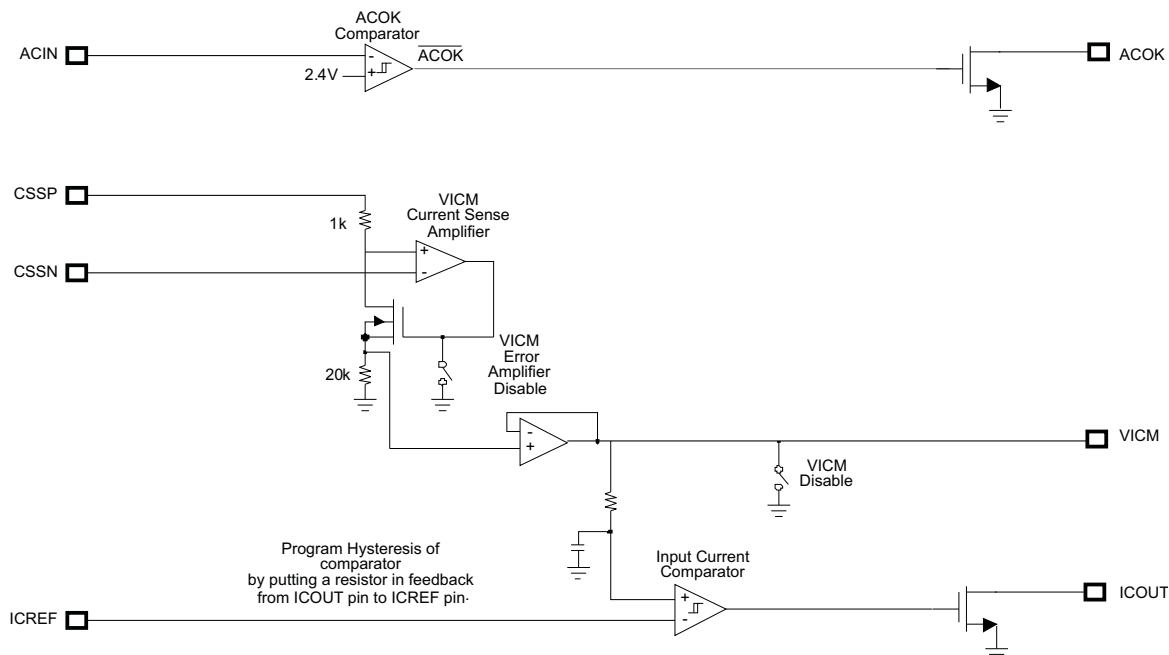

Figure 36. ACOK, ICREF, and ICOUT Logic
- Deleted "Level 2" from title 1 - Deleted "Input Overvoltage Protection (OVP)" Features bullet 1 - Changed Feature bullet from "6 V-24 V" to "7 V-24 V" 1 - Changed "10-μ" to "10-μA" Battery Current 1 - Changed last sentence of first paragraph of DESCRIPTION by deleting "one," from the text string. 1 - Changed Figure 1 graphic entity 2 - Changed Figure 2 graphic entity 3 - Changed T_A from "70°C" to "40°C" in the Package Thermal Data table. 3 - Changed θ_{JA} from "39°C/W" to "36°C/W" in the Package Thermal Data table. 3 - Changed "ACOUT" to "ICOUT" and deleted "ICREF input" from Pin 2 functional description. 4 - Deleted "optional" from Pins 17, 18, 27, and 28 functional description in the Pin Functions table. 4 - Added text to Pin 22 functional description. 4 - Changed Pin 22 functional description from "100-Ω" resistor to "10-Ω" resistor in the Pin Functions table. 4 - Added "ACOK" specification to first row of Absolute Maximum Ratings table. 5 - Added "SDA" and "SCL" specification to fourth row of Absolute Maximum Ratings table, and changed maximum voltage from "7 V" to "6 V" 5 - Deleted "GND" and "PGND" specification from Absolute Maximum Ratings table 5 - Added "ACOK" specification to Recommended Operating Conditions table 5 - Added "VDDSMB", "SDA", and "SCL" specifications to Recommended Operating Conditions table 5 - Changed VFB SHORT (....) COMPARATOR specification parameter text from ""VFB short rising hysteresis" to "VFB short falling hysteresis" 7 - Changed Functional Block Diagram graphic entity 17 - Changed Detailed Description -- re-write for clarification 18 - Changed Figure 33 graphic entity 19 - Changed Figure 34 graphic entity legend 19 - Changed Figure 35 graphic entity legend 20 - Changed Figure 36 graphic entity 27 - Deleted "Q5" from Component List table. 28 - Added description for C1 and C6 in the Component List table. 28 - Changed "R9" to "R19" in Component List 28 - Added R20 to Component List 28